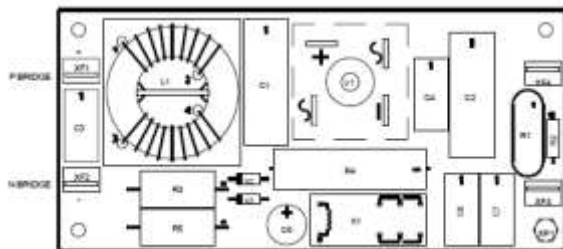

Fig.1
- On the electronic circuit (Fig.1) if the varistor (R1) presents blisters or bursting marks then it is broken; replace the electronic circuit W000232541.
- Verify on the leveling condensers C1, C2, C3, C33 (Fig.1) the presence of swellings or of breaks on the container. They are signs of an irremediable damage.
4. Check for the presence of burn tracks or electric discharge marks on the printed circuit (Fig.1).